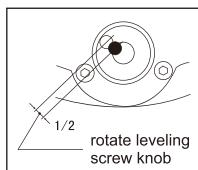

fig.8
- 1.Rotate the leveling screw knob 9 to ensure the air bubble moving toward to the center of circular bubble vial, the deviation should be at 1/2 between the center and the end position(see fig.8)